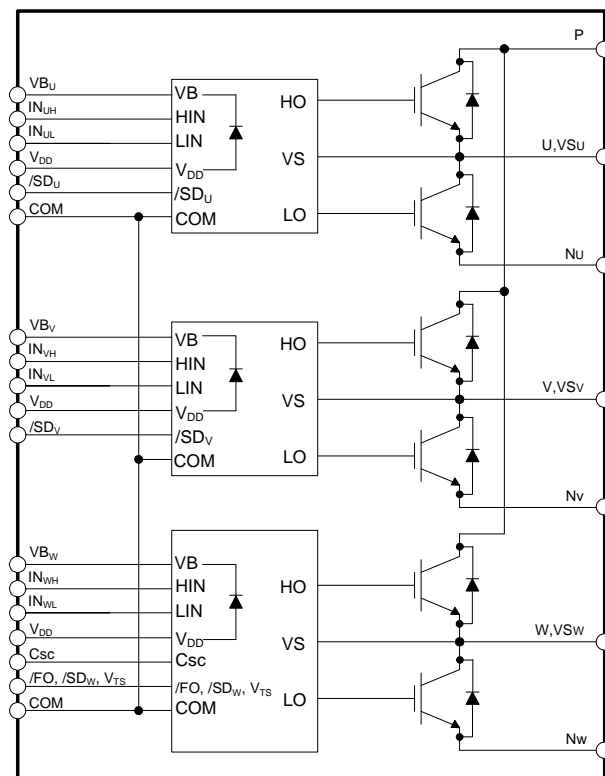

Figure 3. Internal Block Diagram
- 600 V - 4 A IGBT inverter for three phase DC / AC power conversion (*Please refer to Figure 3*)